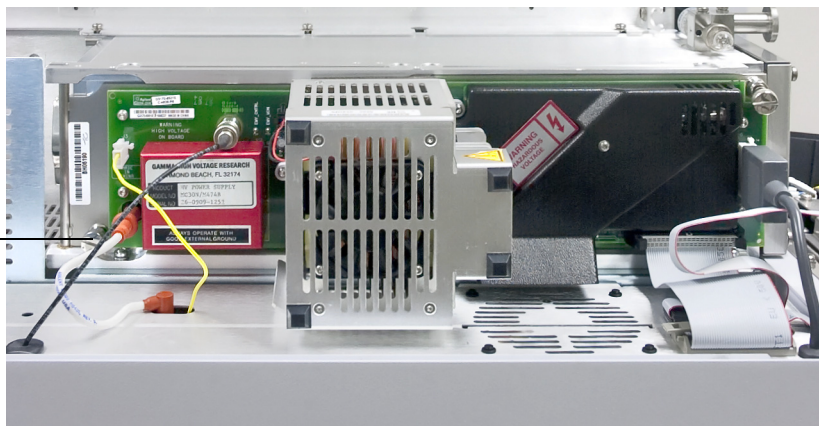

Figure 5 Loosen sideplate thumbscrews
- 2 Verify the sideplate thumbscrews are completely loosened. (Shown in Figure 5.)